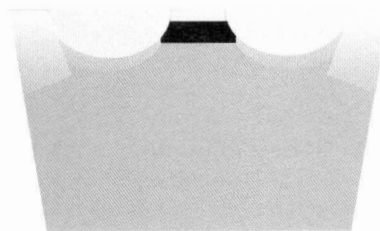

Figure 9
- b. It is difficult to remove the shelf from the middle of the reed using the method found in the previous step. In order to remove the shelf created by Step 3, shown in the black area of Figure 9, use a flat file placed at the same angle as the knife blade in